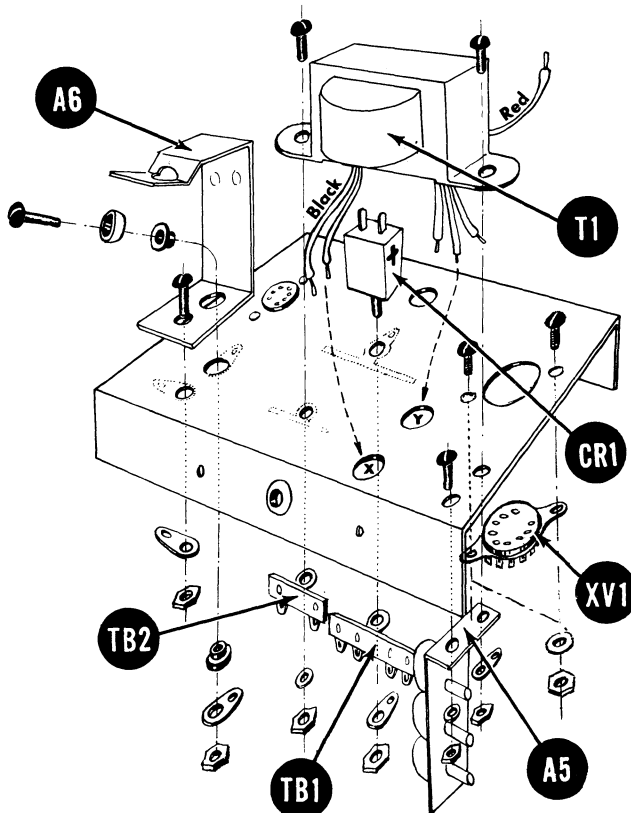
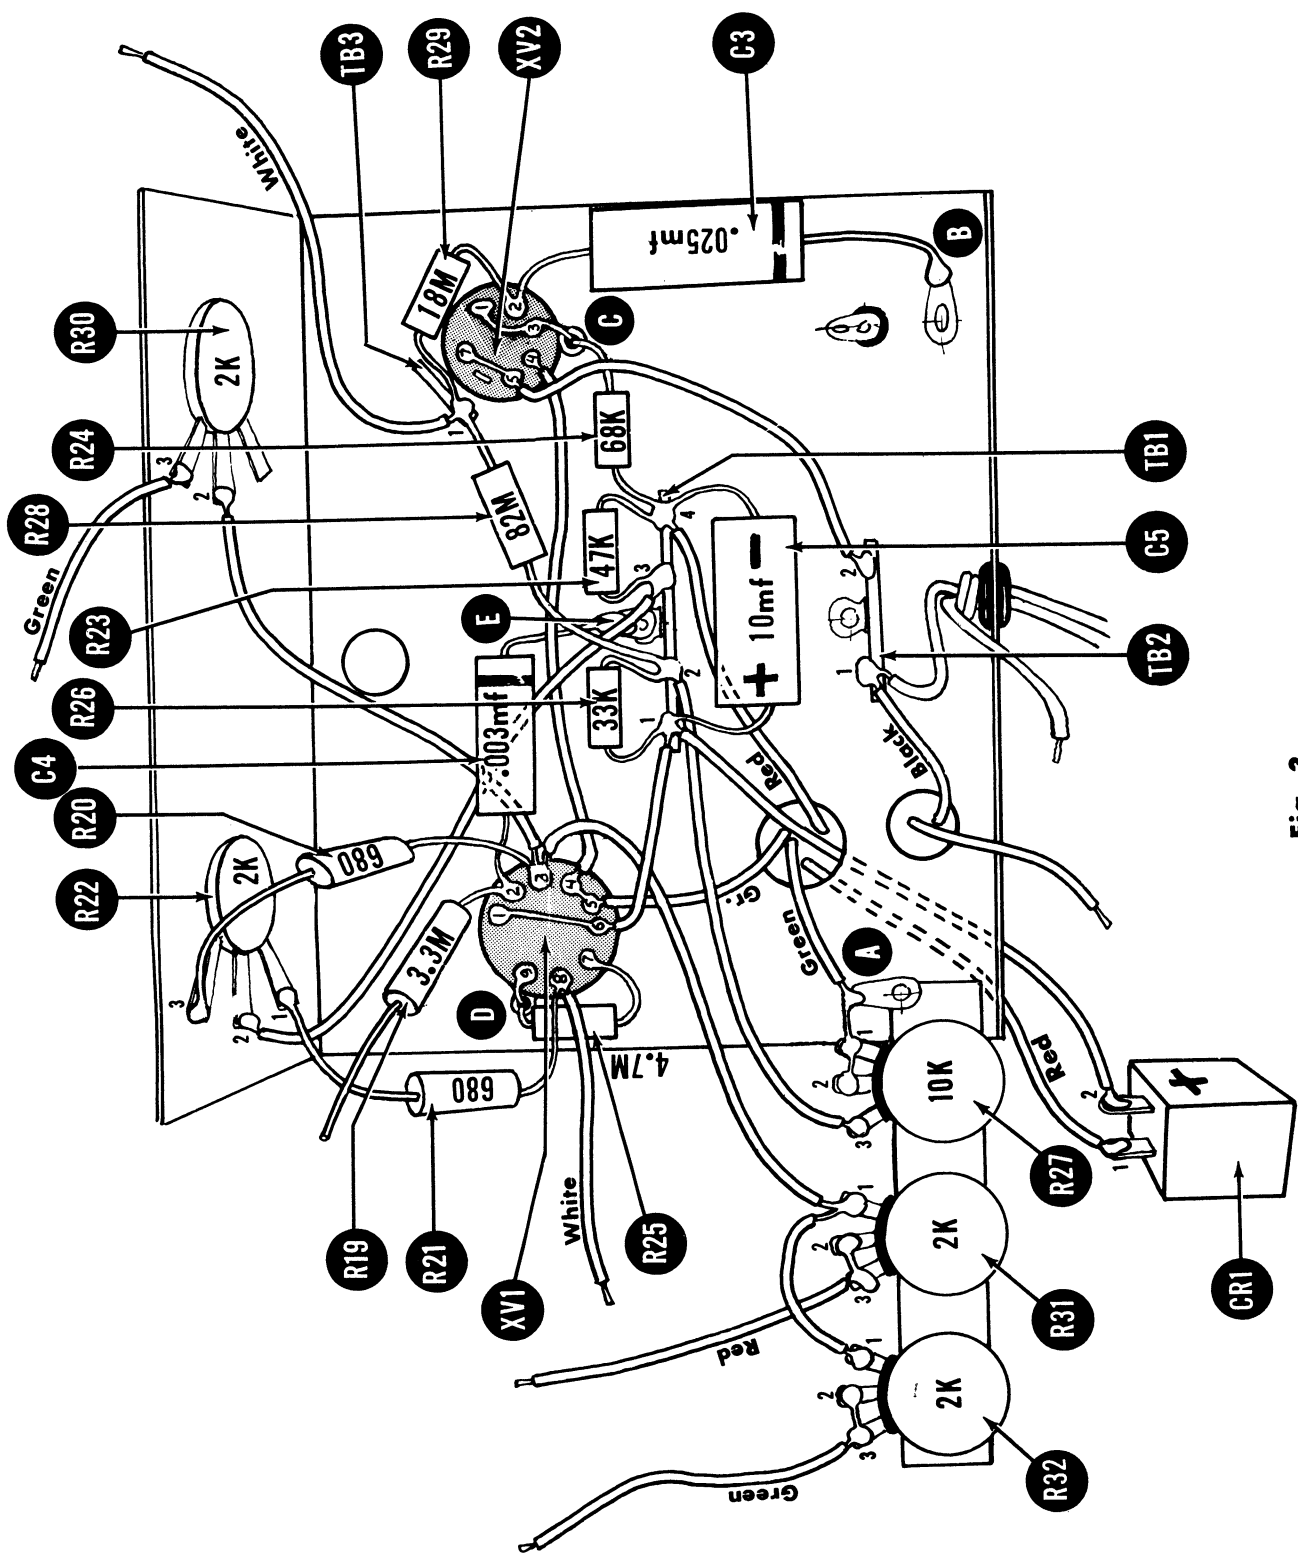

Fig. 2
Fig. 3
- () Fig. 2. Mount the 9 pin miniature socket, XV1, with 2 each #4-40 screws, #4 hex nuts and #4 washers. See Fig. 3 for keyway location.
- () Fig. 2. Mount the 7 pin miniature socket, XV2, with 2 each #4-40 screws, #4 hex nuts, and #4 washers. A one post left terminal strip, TB3, is mounted with XV2. See Fig. 3 for location.
- () Fig. 2. Insert 3/8" rubber grommet for line cord in hole in center of rear chassis apron.
- () Fig. 2. Mount the selenium rectifier CR1 with a 6/32 hex nut. Position the 4 post terminal strip TB1 and the ground lug under the nut as shown.
- () Fig. 2. Mount the battery clip A6 with a 6-32 X 1/4 screw and a 6-32 hex nut. Position gnd. lug under nut as shown. Line up the two empty holes before you tighten nut.
- () Fig. 2. Mount the cup washer to the battery clip. Use a 6-32 X 1/2 screw, two #6 shoulder fiber washers and a 6-32 hex nut. Position a #6 ground lug under nut as shown.
- () Fig. 2. Mount the pre-assembled potentiometer bracket A5 to the chassis. Use a 6-32 X 1/4 screw, a #6 lockwasher and a 6-32 hex nut. Line up two empty holes before you tighten nut.
- () Fig. 2. Mount the power transformer T1 to the chassis. Pass black leads thru hole "X" and the leads on the other side of the transformer thru hole "Y" except one red. Use two 6-32 X 1/4 screws, one #6 lockwasher and two 6-32 hex nuts. Place two post terminal strip TB2 as shown and under other hex nut position a #6 ground lug.
- (✓) Fig. 3. Mount the 2 K Ω Zero Adj. potentiometer R22 with two 3/8 hex nuts, one 3/8 lockwasher and one 3/8 flat washer. This is a temporary mounting.
- (✓) Fig. 3. Likewise, mount the 2 K Ω Ohms Adj. potentiometer R30.
- (✓) Fig. 3. Connect green lead of power transformer T1 to ground lug "A" (C).
- (✓) Fig. 3. Connect a short length of bare wire from gnd lug "A" (S) to R27-2 (S) thru R27-1 (S).
- (✓) Fig. 3. Connect green lead of power transformer T1 to XV1-4 (C) thru XV1-5 (S).
- (✓) Fig. 3. Connect red lead of power transformer T1 to TB1-4 (C).
- (✓) Fig. 3. Connect the other red lead of power transformer T1 to CR1-1 (S). This lead is on top side of chassis.
- (✓) Fig. 3. Connect a length of red hook-up wire from CR1-2 (S) to TB1-1 (C).
- (✓) Fig. 3. Connect black lead of power transformer T1 to TB2-1 (C).
- (✓) Fig. 3. Connect a length of green hook-up wire from XV1-4 (S) to XV2-4 (S).
- (✓) Fig. 3. Connect the positive (+) lead of the 10mf electrolytic capacitor C5 to TB1-1 (C) and the negative lead (-) to TB1-4 (C).
- (✓) Fig. 3. Connect a short length of red hook-up wire from TB1-1 (C) to XV1-1 (S), thru XV1-6 (S).
- (✓) Fig. 3. Connect the 33 K Ω resistor R26 from TB1-1 (S) to TB1-2 (C).
- (✓) Fig. 3. Connect a length of red hook-up wire from TB1-2 (C) to R27-3 (S).
- (✓) Fig. 3. Connect the 82 M Ω resistor R28 from TB1-2 (S) to TB3-1 (C).
- (✓) Fig. 3. Connect the 18 M Ω resistor R29 from TB3-1 (C) to XV2-2 (C). Use spaghetti.
- (✓) Fig. 3. Connect a 5 1/2 in. length of white hook-up wire to TB3-1 (S).
- (✓) Fig. 3. Connect a .025 mf capacitor C3 from XV2-2 (S) to ground lug "B" (S). Use spaghetti.
- (✓) Fig. 3. Connect a short length of bare wire from XV2-1 (S) to lug "C" (C) on XV2 thru XV2-3 (S).
- (✓) Fig. 3. Connect the 68 K Ω resistor R24 from TB1-4 (C) to lug "C" (S) on XV2.
- (✓) Fig. 3. Connect the 47 K Ω resistor R23 from TB1-4 (S) to TB1-3 (C).
- (✓) Fig. 3. Connect a length of white hook-up wire from TB1-3 (S) to R22-2 (S).